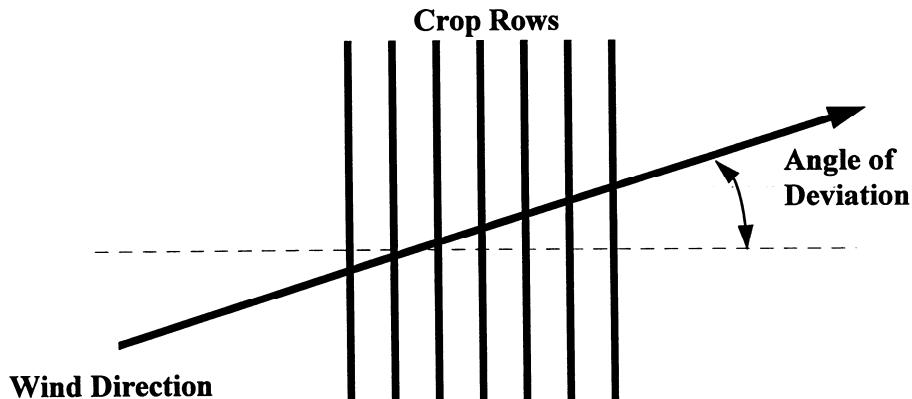

Figure 9. Illustration of Angle of Deviation
Ridge Roughness (**Krd**) equal to 0.8 or less will be designed using the procedure in this specification. **Krd** less than 0.8 is not cross wind ridging. **Krd** is read from one of five graphs listed in the Exhibit 502-4 of the National Agronomy Manual (NAM) or calculated using the NM Cross Wind Ridging Jobsheet. The graphs are included in this specification. **Krd** is read from the graphs using **Kr** (old ridge roughness), the **I** of the soil, and the angle of the wind deviation from perpendicular (0, 22.5, 45, 67.5, or 90 degrees of perpendicular). Figure 9 illustrates how wind deviation is measured. The wind preponderance is used in the excel spreadsheet NM Cross Wind Ridging Jobsheet (electronic version of the design). Both the hand method and the electronic version give approved results. The hand method does not correct for preponderance.
The angle of deviation is illustrated by the following (figure 9):
Step 1 Determine the Angle of Deviation for the field (0, 22.5, 45, 67.5, or 90 degrees of perpendicular). See Figure 9.